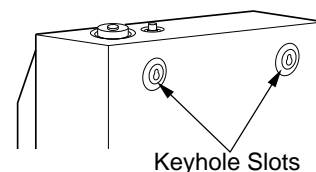

Figure 7 - Location Of Keyhole Slots On Back Panel Of Heater
1. Locate two keyhole slots on back panel of heater (see Figure 7).